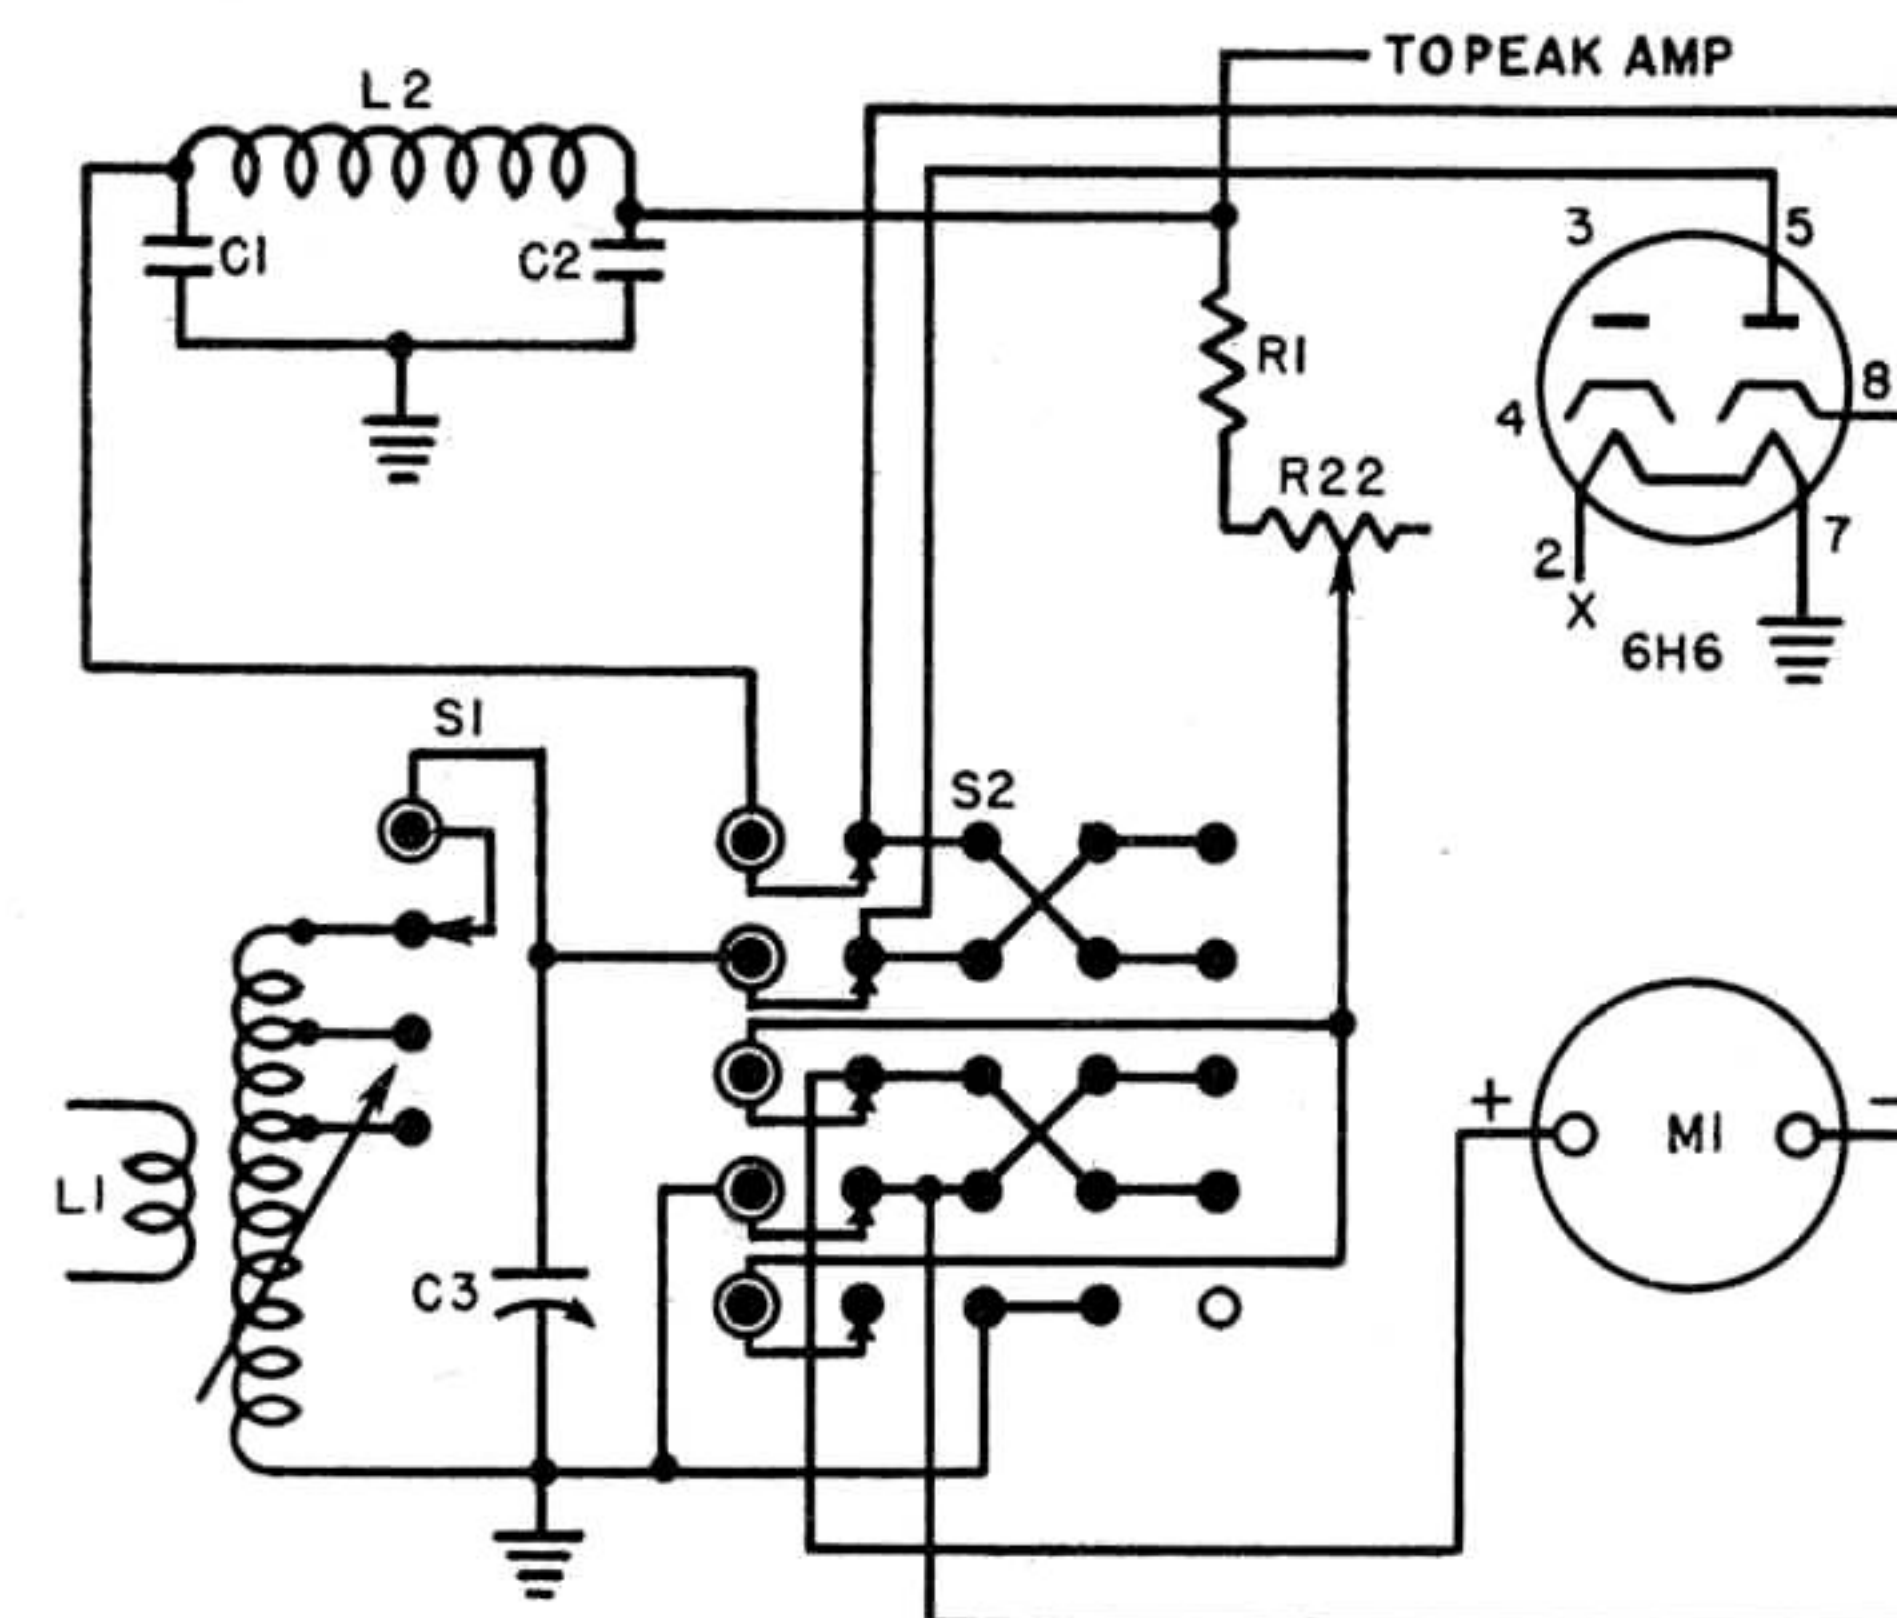

FIGURE 1- SIMPLIFIED RF INPUT CIRCUIT
R. F. INPUT AND CARRIER LEVEL (Fig. 1)
The Model 3296 Modulation Monitor is designed to require little or no maintenance. With the exception of replacing tubes when they are defective, no trouble should be experienced with this unit. Simplified circuit drawings, Figures 1 to 5 inclusive, are provided to easily acquaint the user with the various circuits.